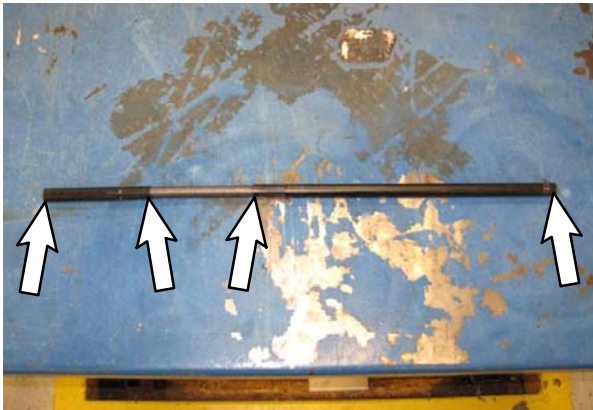

FIG. 29
1. Use an alcohol wipe (6) to clean oil from the inside the bore of the new steering coupling (3) and both ends of the new steering shaft (1). **Do Not** clean the flexible portion of the steering shaft. (Fig. 29)